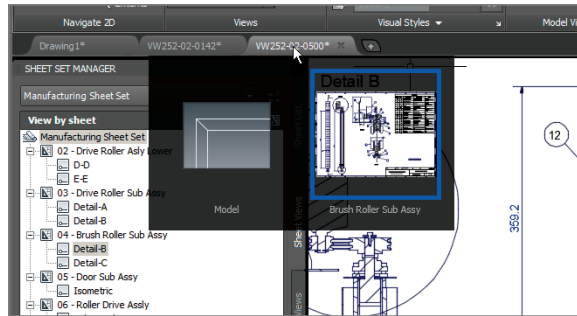

FIGURE 1.9 Accessing open drawings and their spaces
9. Move the cursor over the current drawing's tab and observe two icons. Click on Model to open the drawing's model space (see Figure 1.9).